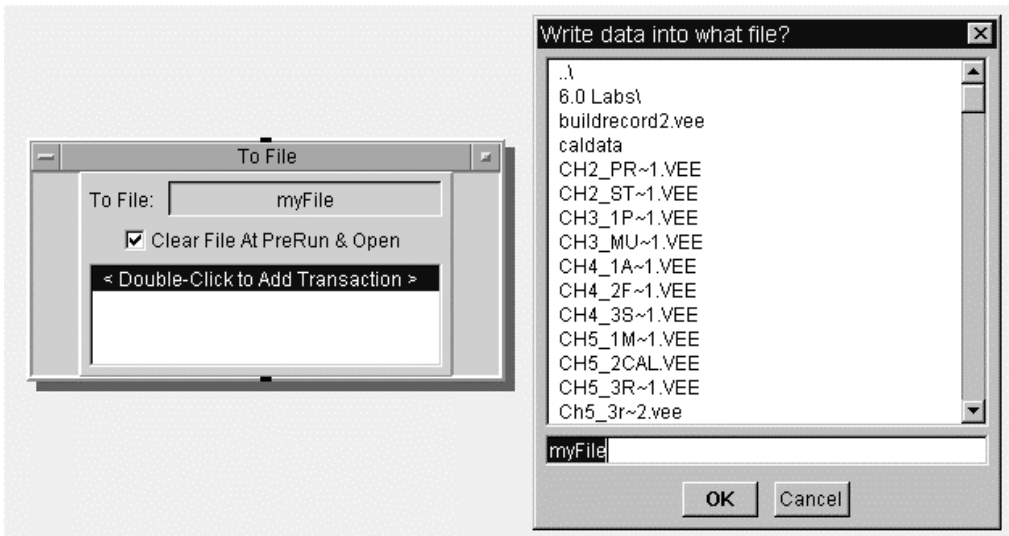
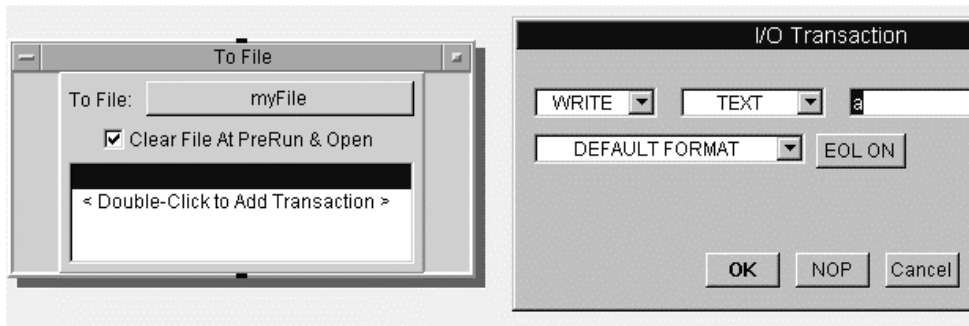

Figure 6.4 The ToFile object and its Home Directory box
Figure 6.5. An I/O Transaction dialog box
Note 1: The To/File default file name is myFile; it appears in the ToFile object. This default can easily be changed by clicking on myFile. (The button to the right of the ToFile: input field label); a box with a list of files will be displayed from your home directory. See Figure 6.4.
Note 3: Finally, WRITE TEXT a EOL is the default transaction. It means that you will write the data of variable a on pin A using TEXT encoding and a specified end-of-line sequence. VEE Pro is not case-sensitive with regard to pin names, so you may use lower-case or upper-case strings to for pin names. See Figure 6.5.
3. Double-click the transaction line shown in Figure 6.4 (“Double-Click here ...”) to open the I/O Transaction dialog box of Figure 6.5.